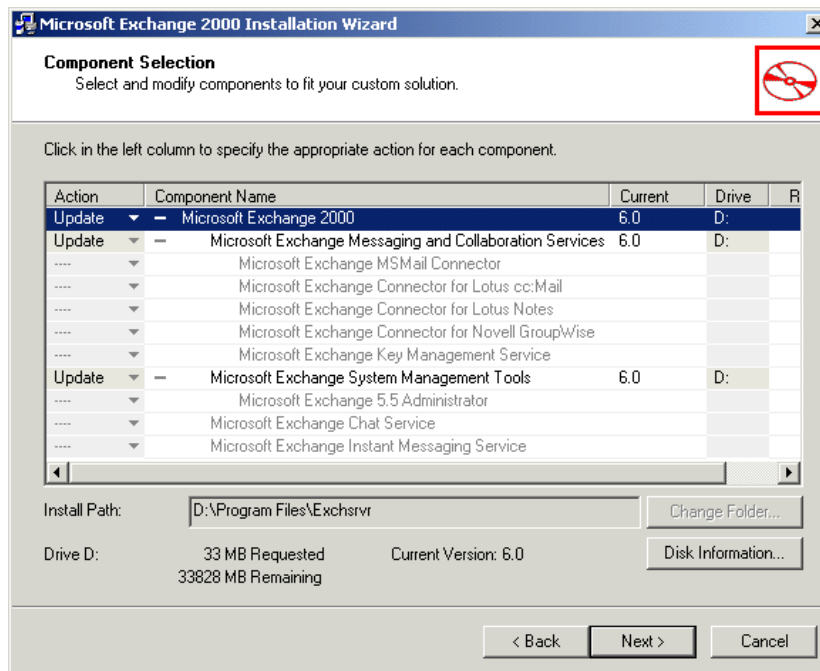

Figure 4-5 Updating Exchange
4. At the Welcome window, click **Next**. You will see a window similar to Figure 4-5.